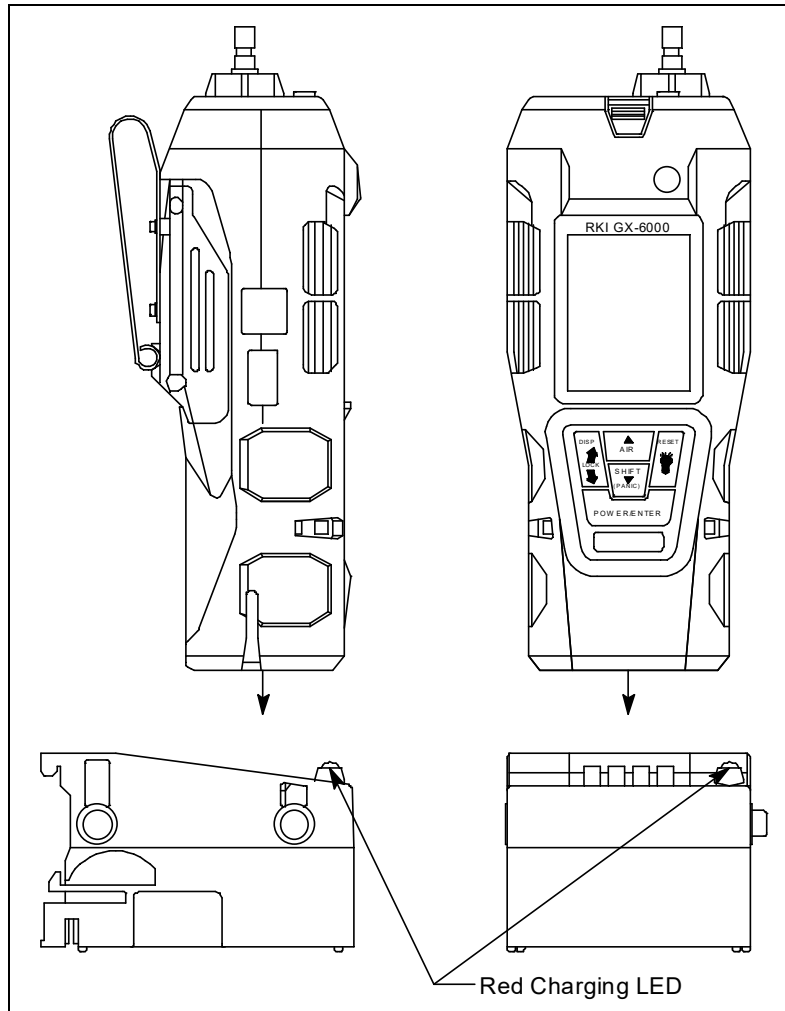

Figure 20: Putting the GX-6100 into the Charging Station
4. Place the GX-6100 into the battery charging station as shown in Figure 20 below so that the metal contacts on the back of the unit come into contact with the metal contacts on the back of the holder in the charging station. When proper contact has been made, the red LED on the charging station will turn on.